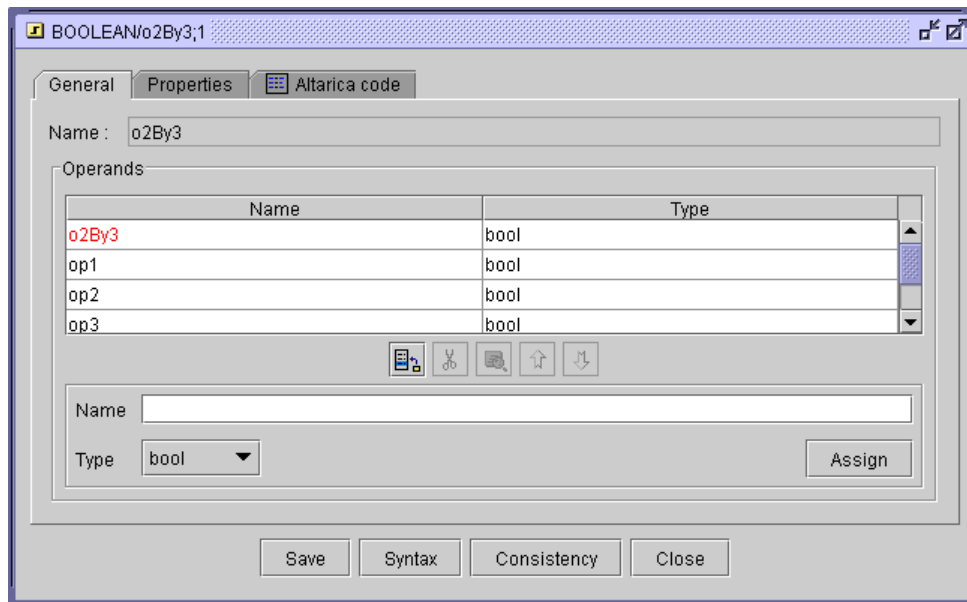

Figure 64 : Operator editor - General tab
5. The window *Operator editor* (Figure 64) is displayed; it is composed of three tabs :
The General tab (Figure 64) allows to filling in the following information:
6. The operator edition window is displayed (Figure 64).